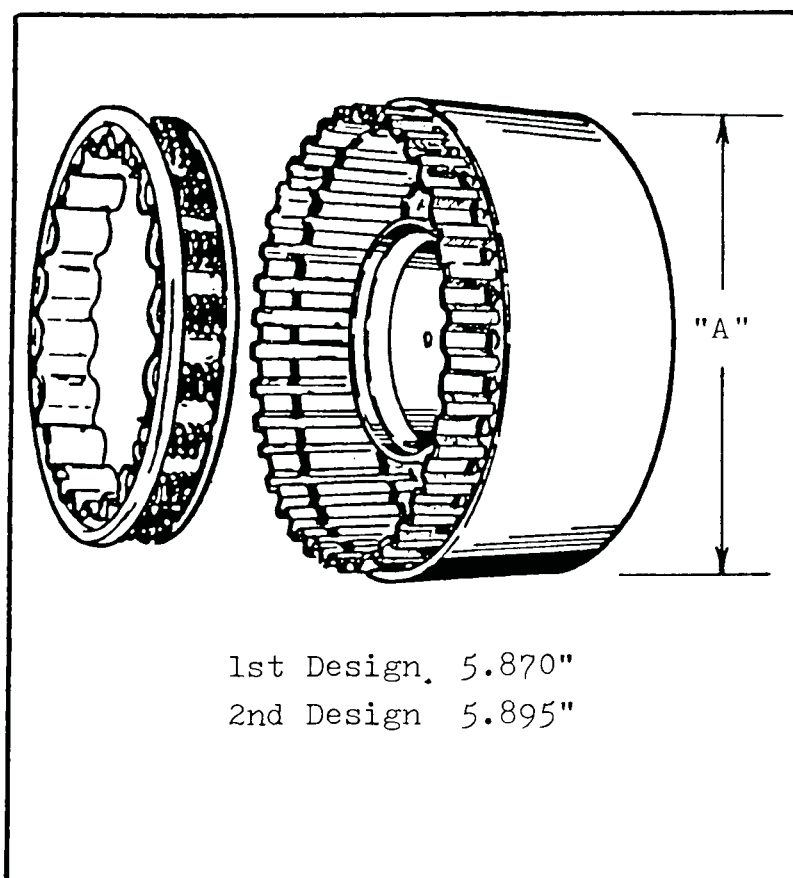

Figure 30
We have included the dimensions of both second clutch housings for identification purposes. See Dimension "A", Figure 30.
- 1) 2nd Clutch Housing - Revised diameter (See Figure 30).